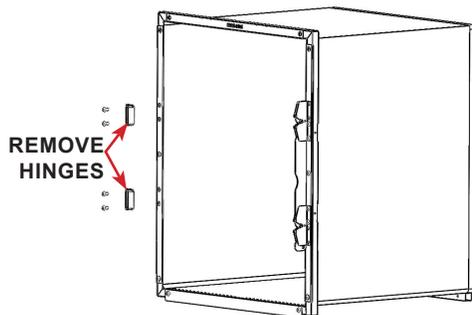

FIGURE 3.3 - Hinge Assembly Removal
STEP 2: Remove the hinge assemblies from the left side of the cage frame by removing the screws. See FIGURE 3.3